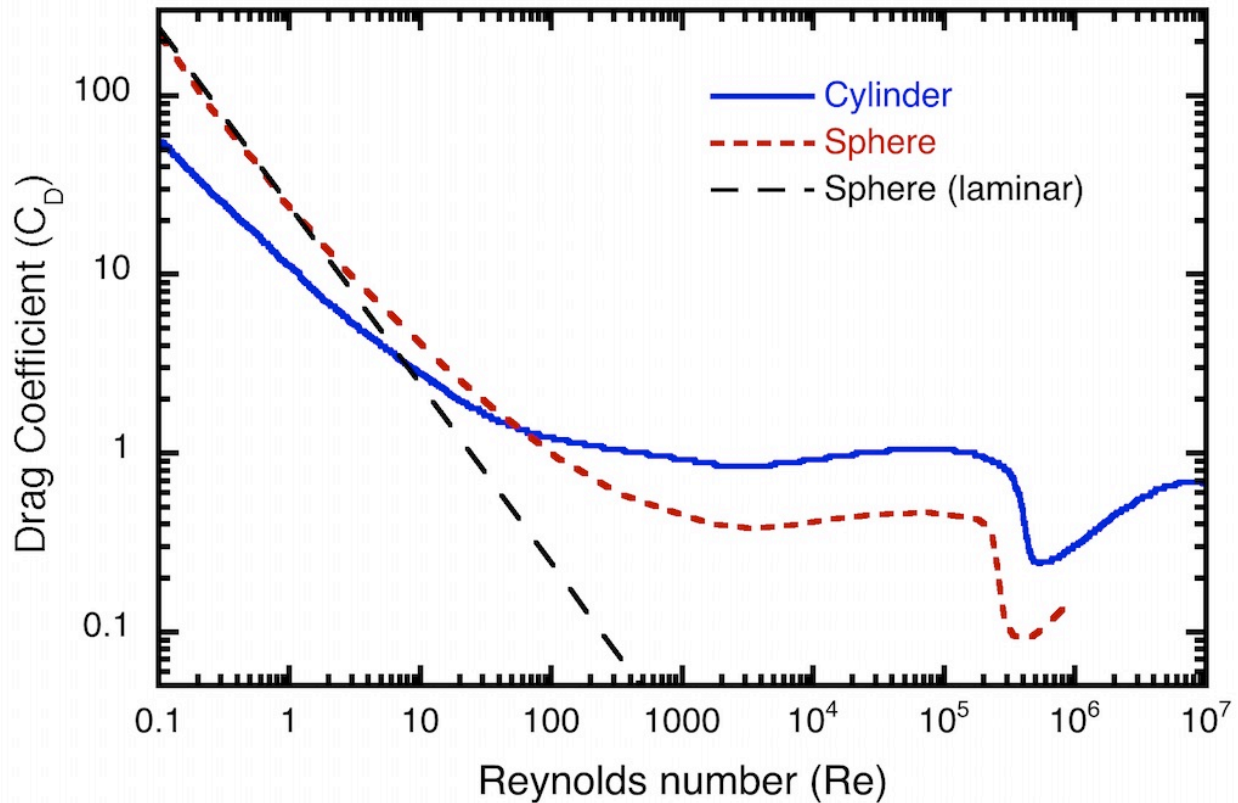

Figure 20. Drag coefficients as a function of Reynolds number for spheres and cylinders.
The above terminal velocity is **only valid for laminar flow**. For turbulent flow, there is no simple analytical relationship between Re and C_D , so one must resort to experiments or detailed (and difficult) computer simulations of the Navier-Stokes equations. Figure 20 shows a comparison of the actual C_D vs. Re with that predicted by the low- Re laminar-flow model. It can be seen that the relation for laminar flow is reasonable up to about $Re \approx 3$ but at higher Re , the flow is NOT laminar and thus the laminar flow result $C_D = 24/Re$ does not apply. As one would expect, C_D is higher with turbulent flow. Note also that at $Re \approx 3 \times 10^5$ there is a sudden decrease in C_D .
A similar C_D vs. Re plot for cylinders in cross-flow (i.e. with the flow in the direction perpendicular to the axis of the cylinder) is also shown in Figure 20, but for cylinders there is no simple analytical relationship analogous to the $C_D = 24/Re$ result for laminar flow over spheres. Note again the sudden decrease in C_D at almost the same Re as for spheres. Note that a 3 cm golf ball hit at 70 m/s in air has a Reynolds number of $(70 \text{ m/s})(0.03 \text{ m})/(1.5 \times 10^{-5} \text{ m}^2/\text{s}) = 1.4 \times 10^5$. Dimpling the golf ball decreases the transition Re somewhat, and thus enables a lower C_D (actually the dimpling also increases the lift due to the backspin on the ball, but that's beyond our scope.)
- 3) Look up her drag coefficient in Figure 20.
- 3) From Figure 20, $C_D \approx 0.4$